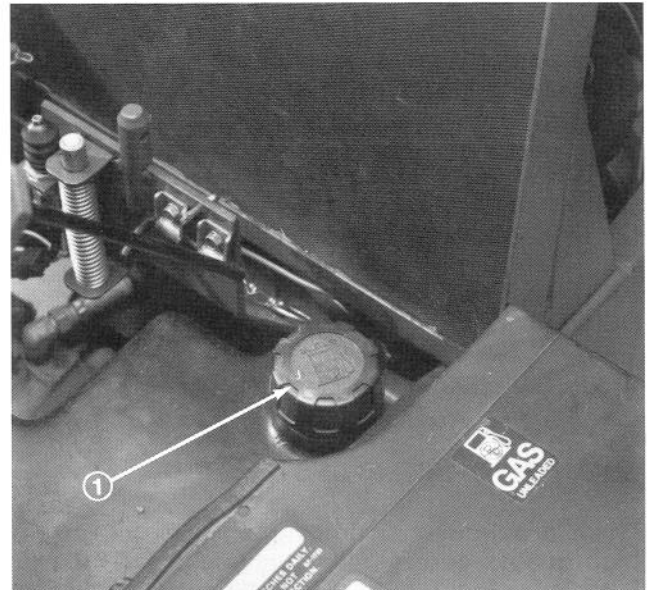

Figure 19
2. Remove cap from the fuel tank (Fig. 19) and fill the 8-1/2 gallon (30 L) tank to within 1 inch (25 mm) from the top with diesel fuel. Install fuel tank cap tightly after filling tank.